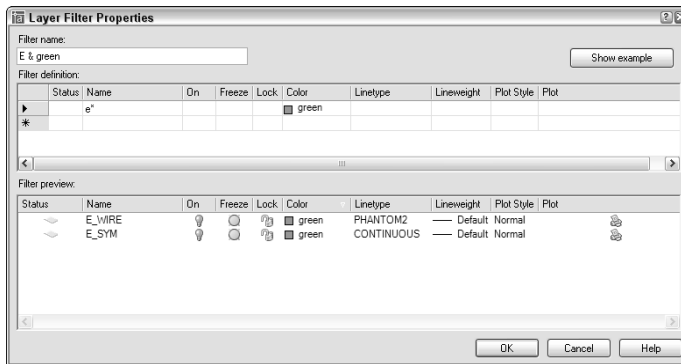

Figure 11-14: The Layer Filter Properties dialog box.
To create a properties filter, click the New Property Filter button to open the Layer Filter Properties, shown in Figure 11-14. Notice that the Filter Definition pane at the top has the same columns as the Layer Properties Manager.
- ♦ To specify a filter for a named property, such as the name or linetype of a layer, you can use wildcards. The two most common wildcard characters are * (asterisk), which replaces any number of characters, and ?, which replaces any single character. Figure 11-14 shows the layer name filter set to e*. The color is also specified as green. Therefore, the filter includes only layers whose names start with the letter *E* and are green.